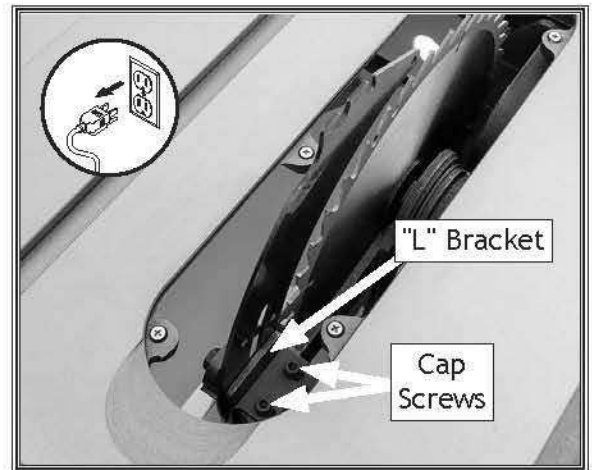

Figure 111. Cap screws for adjusting spreader/riving knife position.
3. Loosen two cap screws on the "L" bracket (see **Figure 111**), then slide spreader/riving knife as needed to move it into alignment with blade.